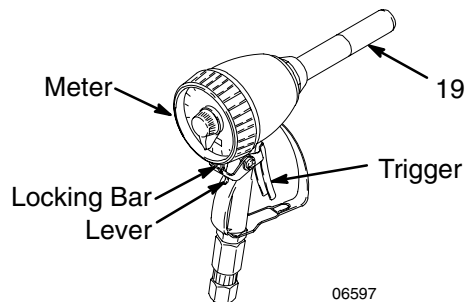

Fig 1
1. Set the meter to the desired number of units. See Fig. 1.
2. Insert the nozzle (19) into the fluid receptacle and pull the trigger. The trigger latches automatically.